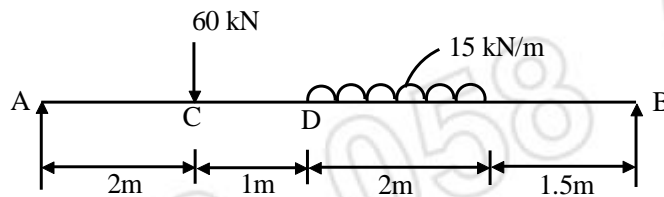

Fig. 5
9. Beam AB simply supported at both ends carries load as shown in figure 5 13